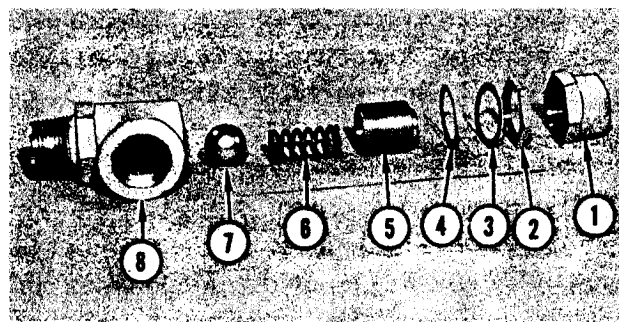

FIGURE 28. RELIEF VALVE
Refer to Figure 28. Remove cap (1). Remove locknut (2) and gaskets (3) and (4). Remove adjusting plug (5). Tilt valve body (8) to remove pressure spring (6) and ball seat (7).